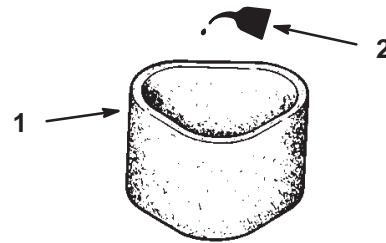

Figure 30
3. Put one or two ounces of oil on the element (Fig. 30). Squeeze the element to distribute the oil.